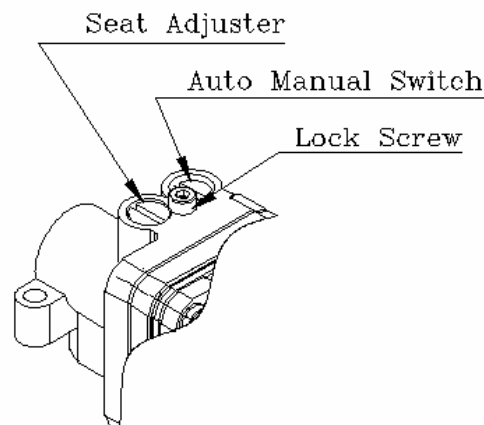

Fig.14
2. When produced, RTX-1000 series is set at "A(Automatic)". If user prefers the positioner's setting as "M (Manual)," the setting can be changed by turning the switch counter-clockwise. **Fig. 14**
4. If OUT2 in single acting actuator or double acting actuator is used, A/M Switch will not operate. **Fig.14**